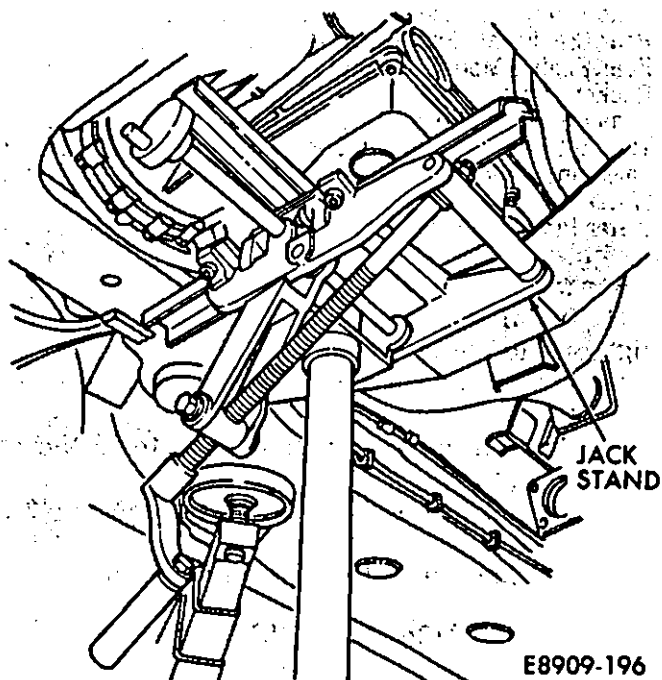

Fig 3—Jack Stand Supporting Transaxle
- (4) Support the transaxle with a jack stand (Fig. 3).
- (5) Take care to avoid damaging the oil pan.